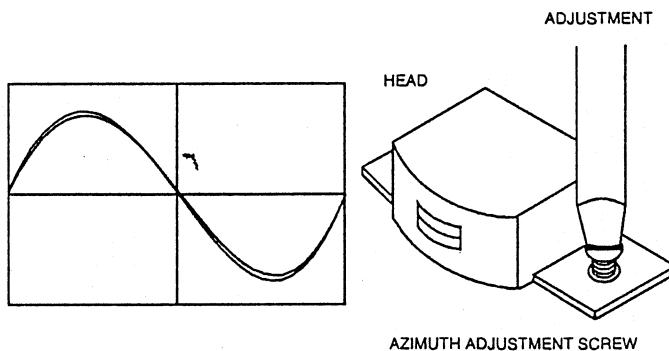

Figure 2. Head Output Signal
3. While playing back the test tape, slowly turn the azimuth adjusting screw until the amplitude of both channel output waveforms is maximum and inphase. (See Figure 2.)